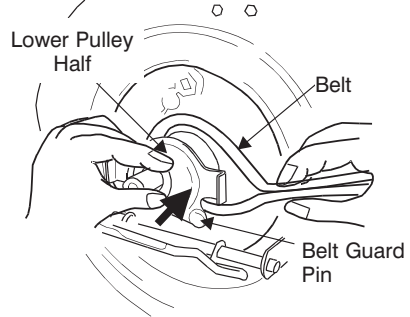

Figure 27
20. Pinch belt together so that it is not in the pulley groove, and the lower pulley can be pushed towards the engine. See Figure 27.